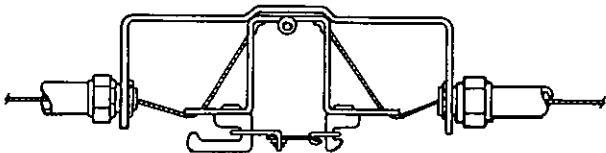

FIGURE 49
8. Starting at the terminal detector, squeeze the linkage together and place the correctly rated Ansul approved fusible link over both detector hooks. For optimum detection, make certain the solder joint is in the down position. Locate the linkage in the center of the detector bracket. See Figure 49.